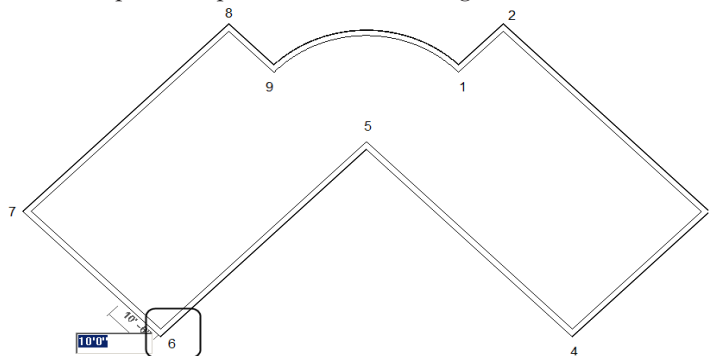

Figure 3-69 Specifying the start point of the first interior wall
- Sketch the interior walls based on the given parameters, refer to Figures 3-69 through 3-75.
3. Move the cursor close to the lower left corner, marked as 6, refer to Figure 3-69, and traverse upward along the centerline of extreme left wall of the building profile. When the temporary dimension appears, enter the value **10' (3048 mm)** and press ENTER to start the interior wall profile from the specified point, as shown in Figure 3-69.